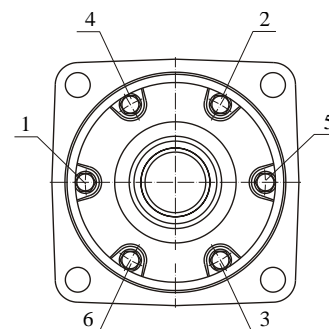

Fig.11
8. Install in the front cap 6 screws and alternately torque them to 2,5-3 daNm using a S13 torque wrench (see Fig.11).